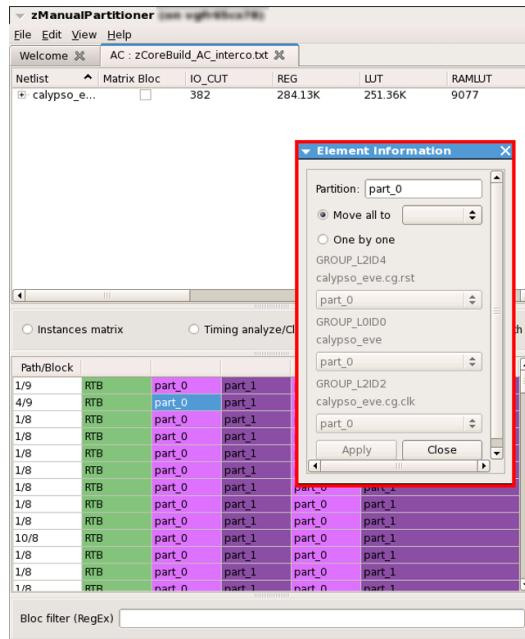

FIGURE 62. Element Information Window
3. Double-click on the path element you want to move to display the **Element Information** window (see *Figure 62*).